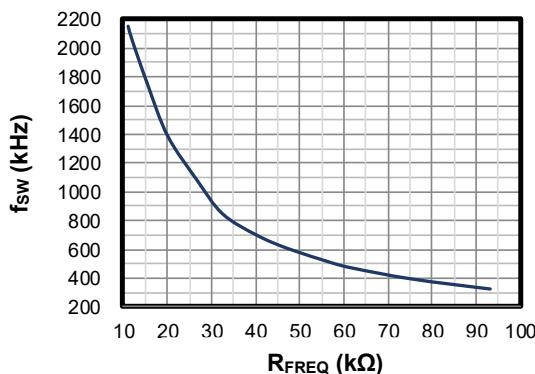

Figure 1: f_{sw} vs. R_{FREQ}
7. The MPQ4312's switching frequency (f_{sw}) can be configured by R3, the FREQ pin's resistor (R_{FREQ}). R3 can be estimated based on the relationship between f_{sw} and R_{FREQ} (see Figure 1).